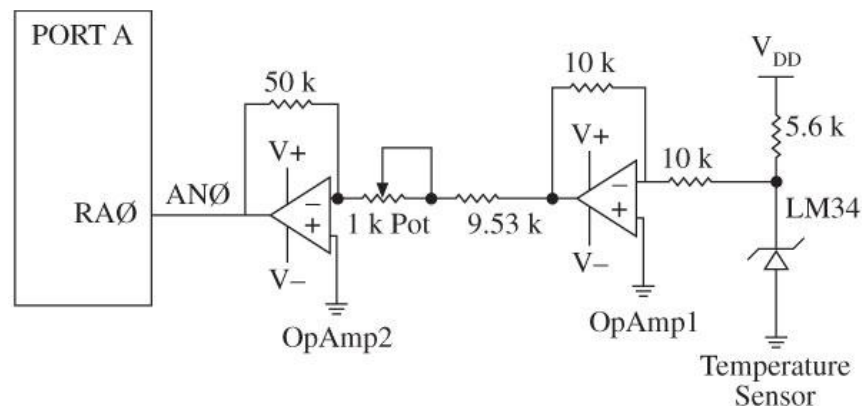

Figure 14-4 Connecting a Temperature Sensor to A/D Converter Input through a **Scaling** Circuit
****Note on Page 471 the caption for Figure 14-4 is incorrect. This is the correct wording.